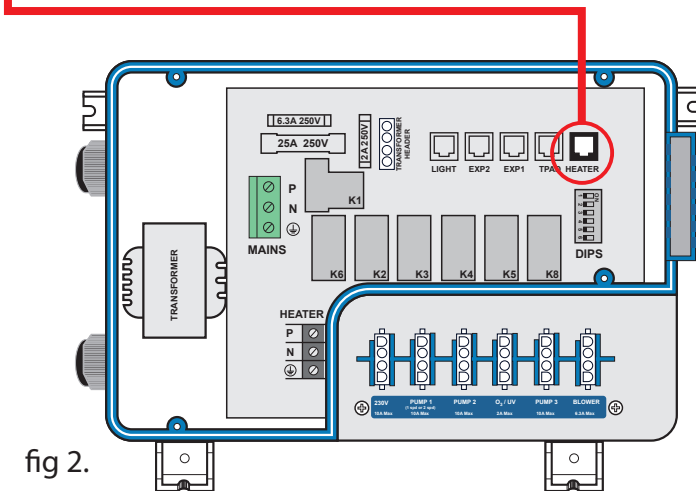

fig 2.
2. Disconnect the heater sensor cable from the controller. The sensor is in the far right RJ45 socket marked "Heater" (fig 2)